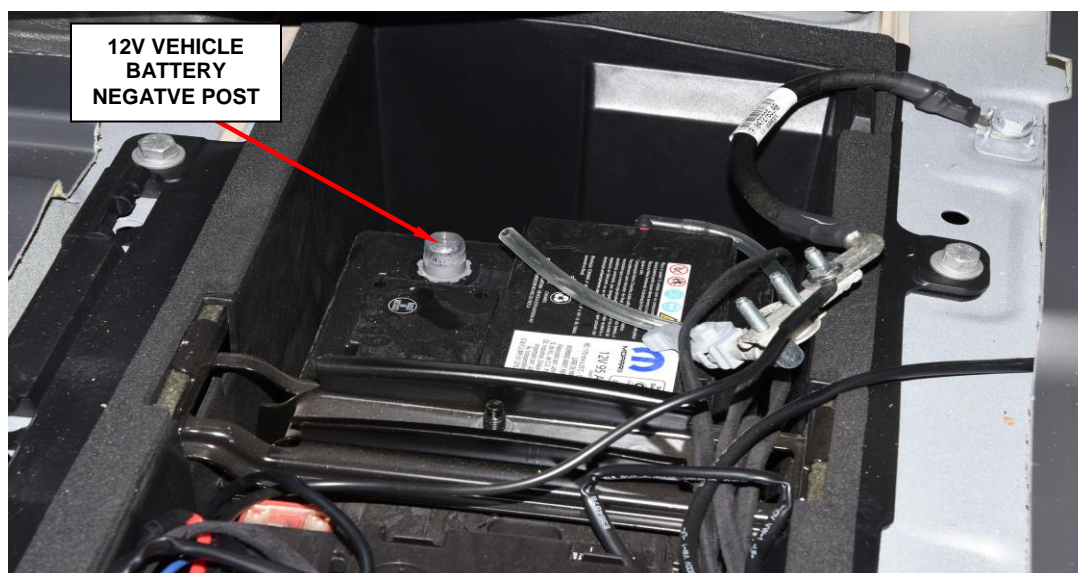

Figure 25 – Battery
2. Disconnect and isolate the negative battery cable (Figure 25).